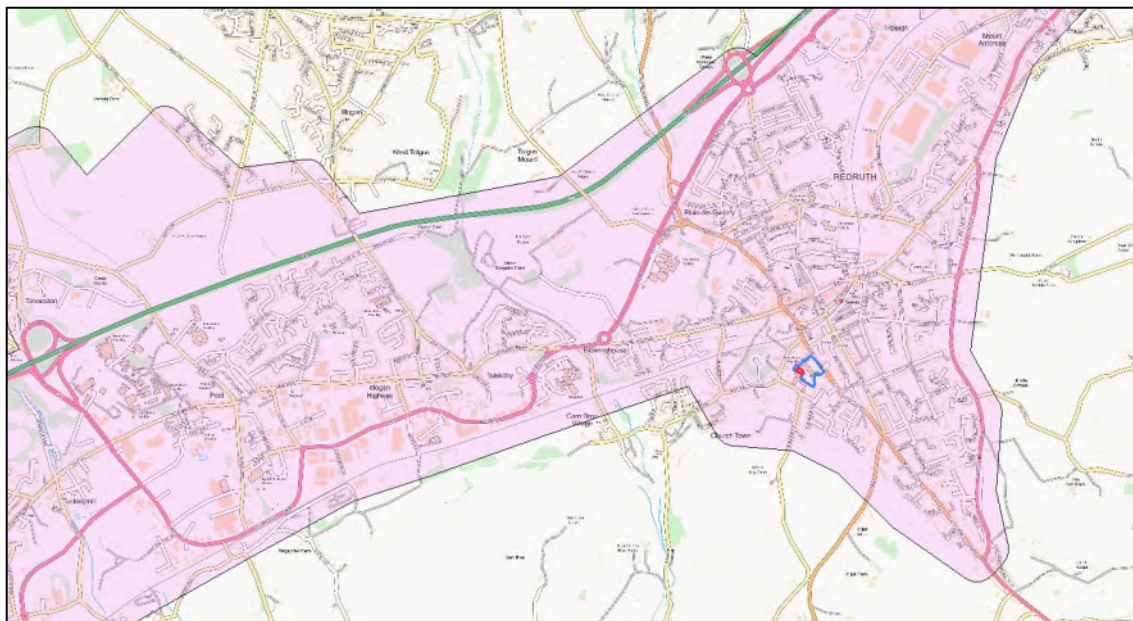

Figure 6: Camborne, Pool, Illogan and Redruth Critical Drainage Area, shown as pink area (Sources: EA, OS)
4.8 The site is located in the Camborne, Pool, Illogan and Redruth Critical Drainage Area as defined by the EA (Figure 6).